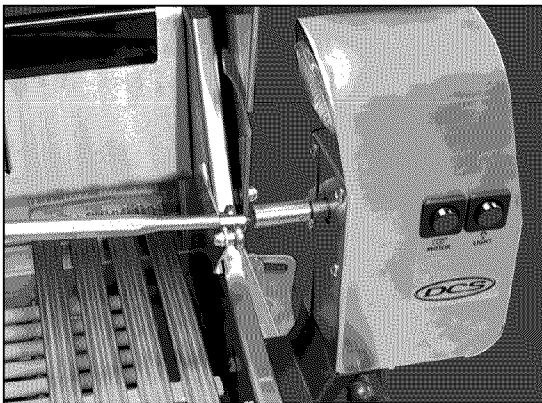

FIG. 39
1. Place prepared rod into motor, lay across to other side in groove (Fig.39).